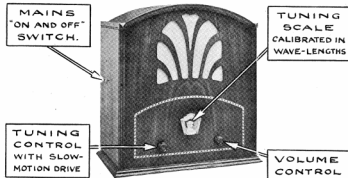

Fig. 4
1. Switch on the electric current by depressing the knob of the "on and off" switch at the left-hand side of the cabinet (see Fig. 4.) A short period should be allowed for the indirectly heated A.C. valves to attain the correct operating temperature before attempting to receive signals.
2. Adjust the volume control to a position near to "minimum" (See Fig. 4.)